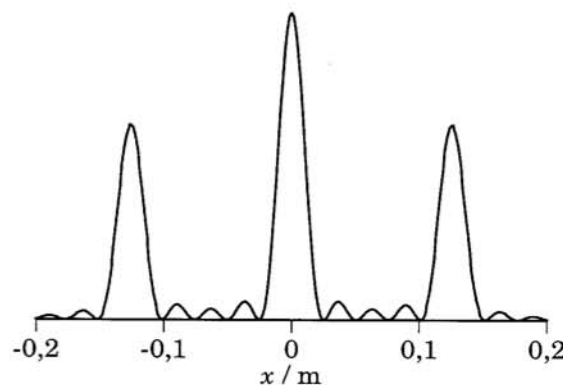

Figure 2 Intensity distribution when light from multiple slits interfere. Each slit also gives rise to a diffraction pattern, as shown in the figure.
3. Parallel light from a red He-Ne-laser ($\lambda = 632.8 \text{ nm}$) is incident on a number of slits. All slits are of the same width and at the same distance apart. The intensity distribution on a screen 10.0 m away is shown in Figure 2.